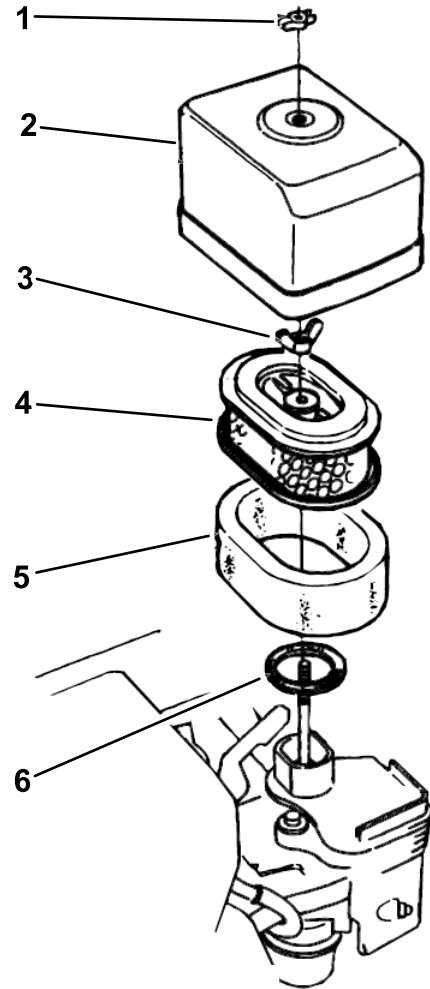

Figure 21
2. Remove wing nut securing air-cleaner cover to air cleaner and remove cover. Clean cover thoroughly (Figure 21).
3. Remove the wing nut from the air filter, and remove the filter (Figure 21).
4. Remove the foam filter from the paper filter (Figure 21).